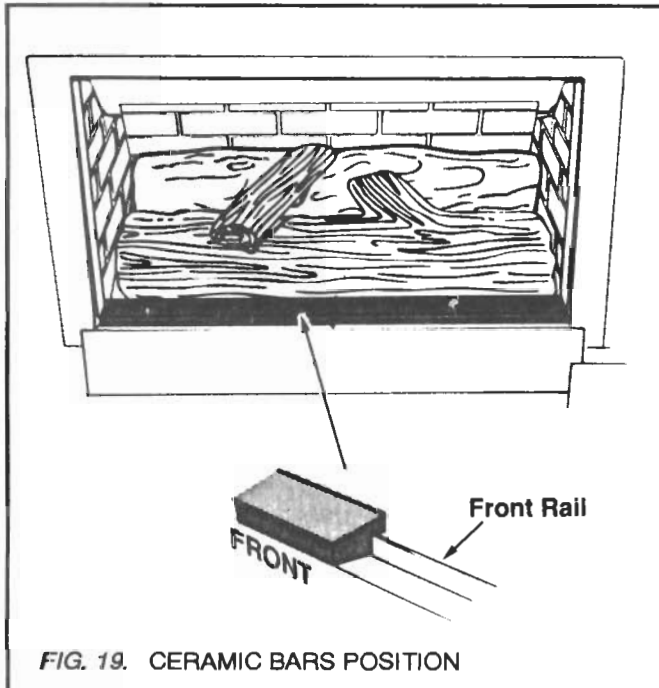

FIG. 19. CERAMIC BARS POSITION
- 12.6. Place the two ceramic bars over the front rail of the fire box - see figure 19.